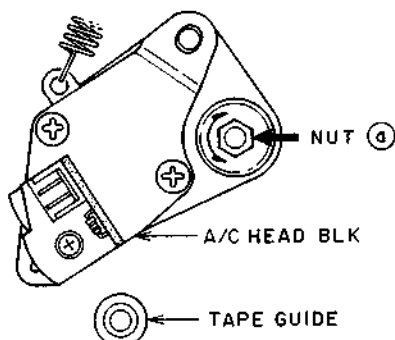

Fig. 6-7-2
- 3) Slightly turn the nut (a) shown in Fig. 6-7-2 to obtain the maximum audio output.